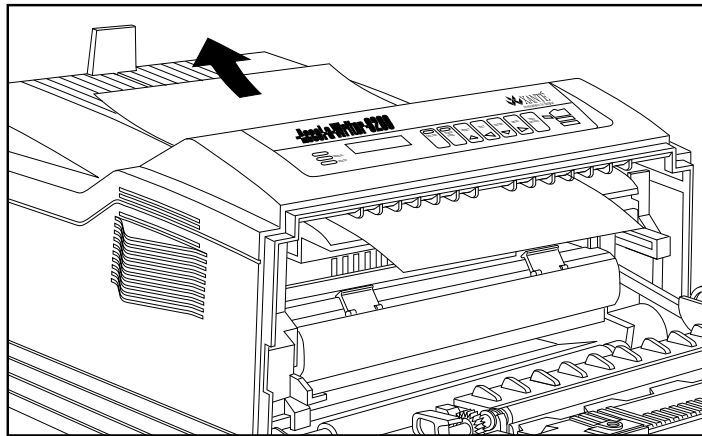

Fig. 10.4 Remove Media from the Output Tray
5. Check the output tray for a jam. If found, pull the media out from the output tray (fig. 10.4).